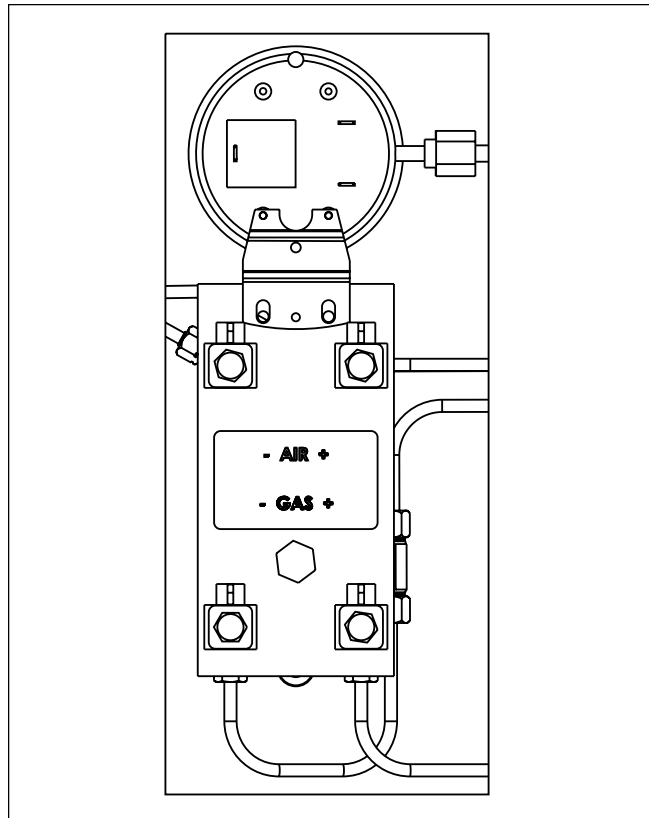
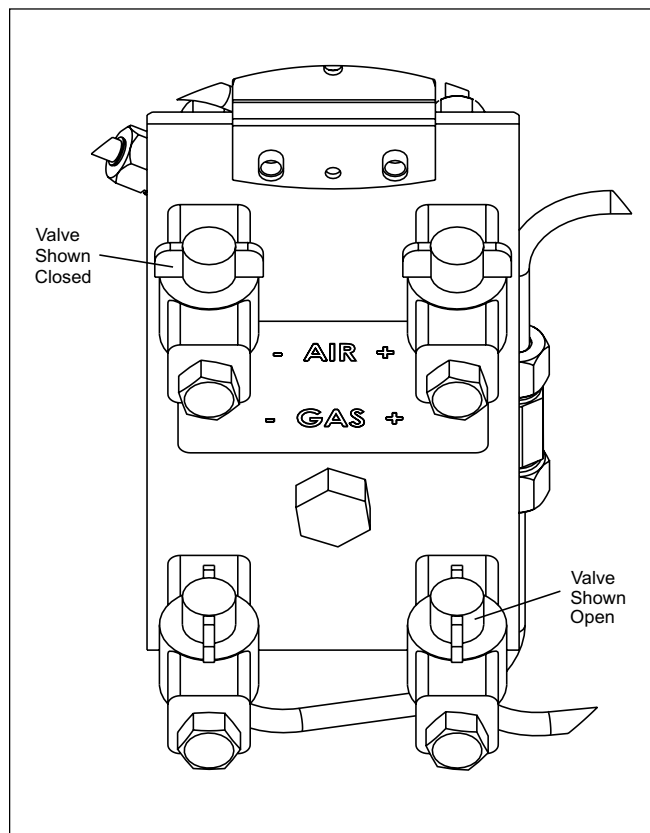

Figure 25. Gas/Air Test Panel.
Figure 26. Test Panel Valves.
4. There is a gas/air test panel to the left of the control panel, at the front of the unit (see Figures 25 and 32). Ensure that all four valves on the test panel are closed (see Figure 26).